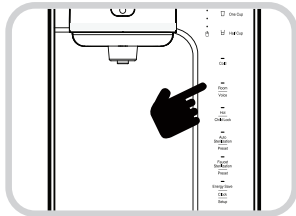

Fig. 10
1. Press the Energy Save/Clock (Setup) button for three (3) seconds in the Waiting Status. The Voice Guide will say "selecting user setting mode" "user setting mode, please set function by pressing the illuminated button".
2. Set the Voice Volume Step by pressing the Room water/Voice button. (Fig. 10).